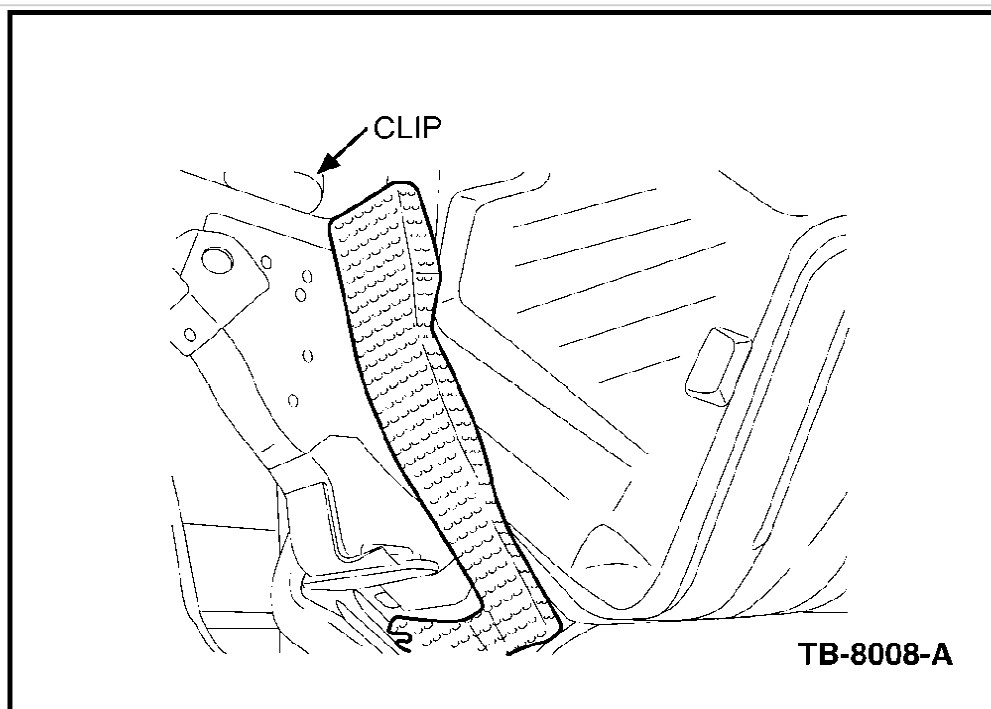

Figure 3
3. Locate the air conditioner condensate discharge tube and install the air conditioner drip shield over it, by installing the clip on the shield over the upper frame rail located just below the air conditioner drier bottle (Figure 3).